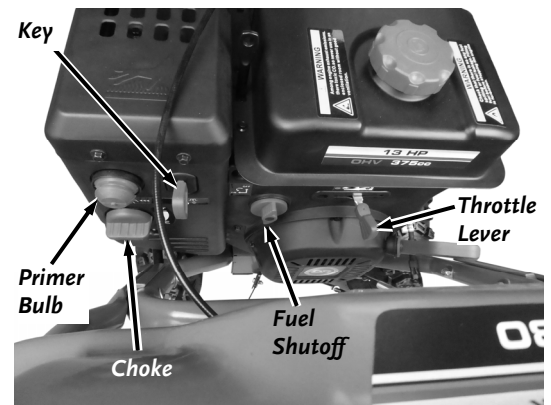

Figure 27
1. Insert the Key into the Key Slot (**Figure 27**).
1. Pull the Key out of the Key Slot to stop the Engine (**Figure 27**).